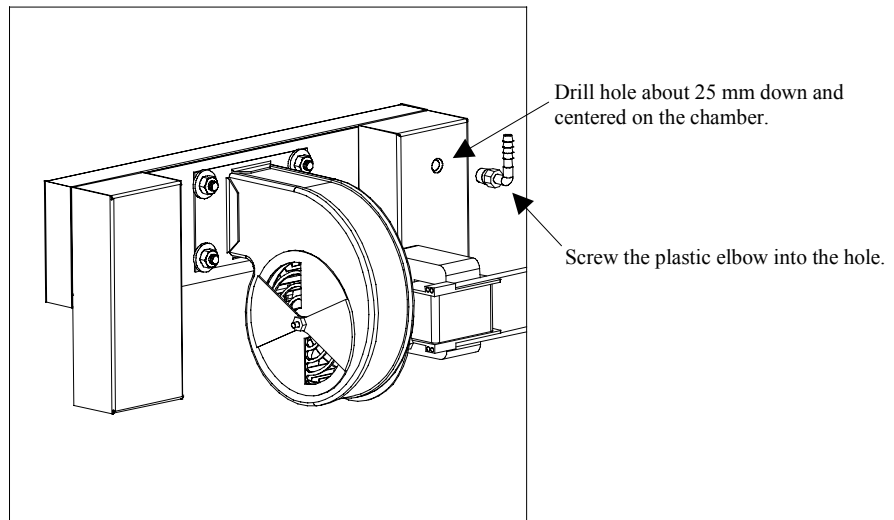

Figure 2
3. Drill a 9.5mm ($\frac{3}{8}$ -inch or Drill Letter “V”) hole in the right plenum chamber as shown in Figure 2. The hole should be about 25mm (1-inch) down and centered on the chamber.